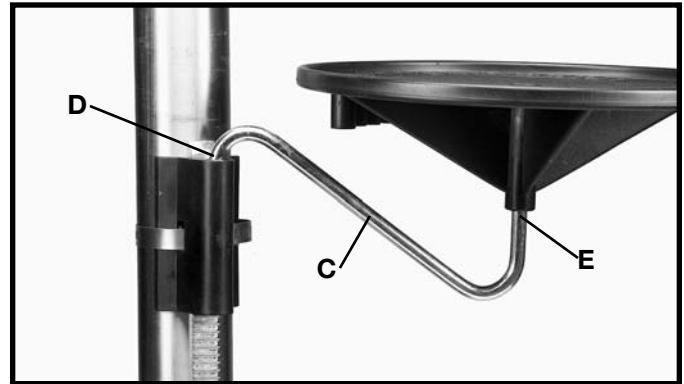

Fig. 10
6. Insert one end of mounting arm (C) Fig. 10, into hole (D) in mounting bracket. Place the tray onto the other end of the mounting arm (E).